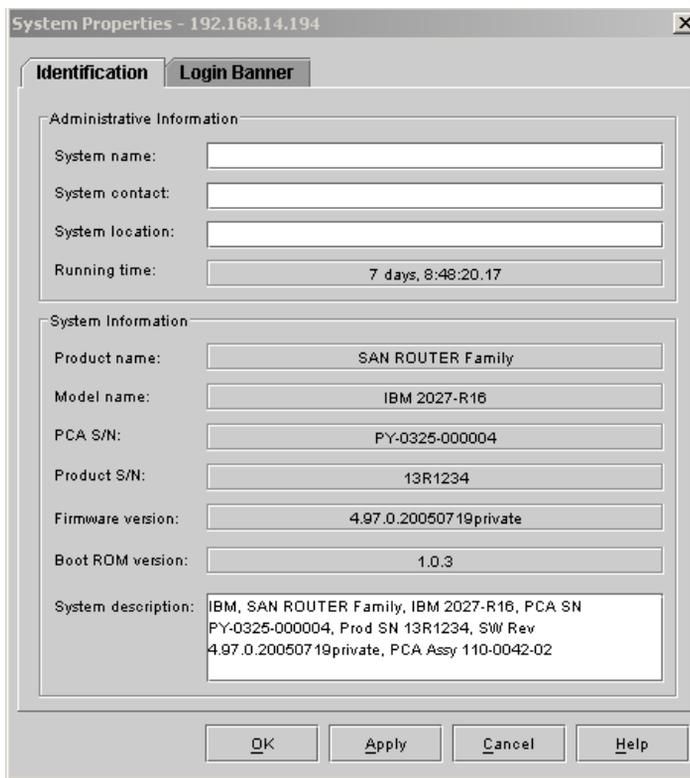

Figure 2-9 System Properties Dialog Box
1. Choose *Configuration>System>Properties* to display the *System Properties* dialog box (Figure 2-9 on page 2-24).